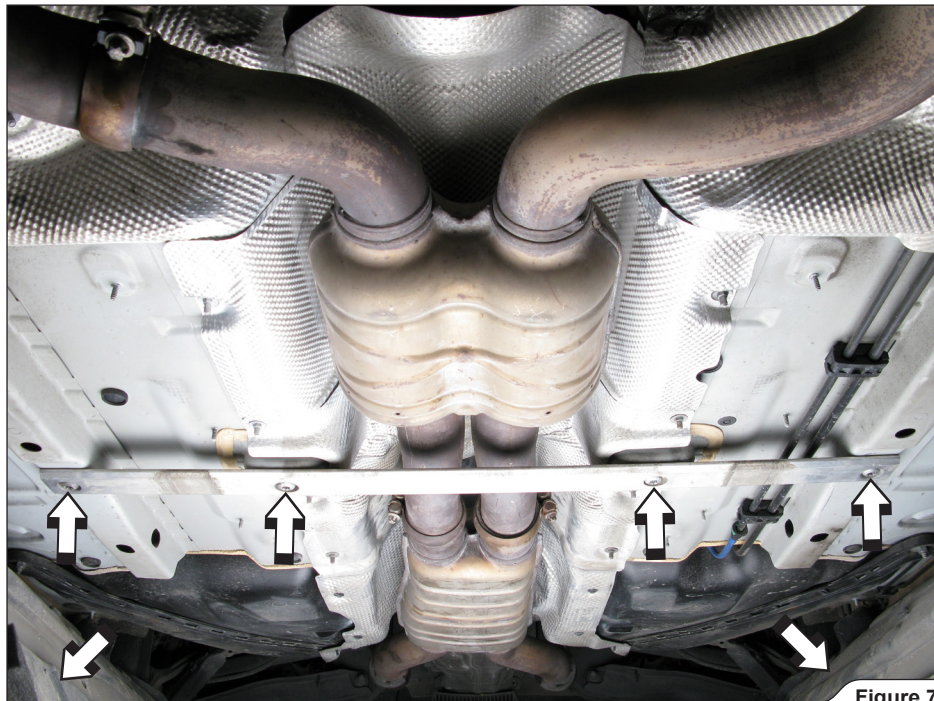

Figure 7
6. **For Evolution only:** carefully bent the chassis panels out of the way and unscrew the marked bolts. Remove the chassis reinforcement off the vehicle (**Figure 7**).